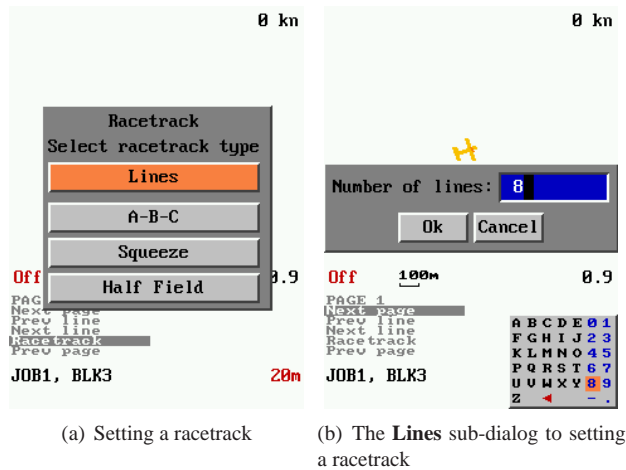

Figure 4.16: Dialog boxes to set a racetrack size
2. Select the racetrack command and a dialog box (figure 4.16(a)) will appear prompting you to choose racetrack type.
2. Select the racetrack command and a dialog box (Figure 4.16(a)) will appear prompting you to choose racetrack type.
1. Select the racetrack command and a dialog box (Figure 4.16(a)) will appear prompting you to choose racetrack type.